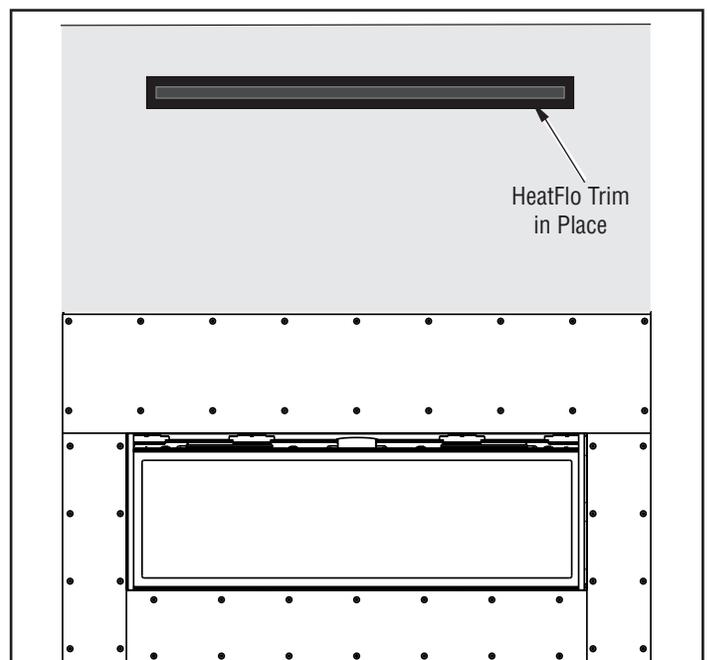

Figure 13 - HeatFlo Trim Installed (Flush Wall Shown)
10. Attach the trim to the register using the screws on both sides after finishing details (**Figure 10, this page and Figure 13, page 7**). **NOTE:** The trim has 1" adjustment to allow for different thickness of building material like marble, tile, etc.
NOTE: The HeatFlo Register Trim ships from the factory painted black and it may be painted another color to match the wall color; using high temperature paint rated for minimum 250°F continuous rating (**Figure 13**). Do not finish over any of the opening in the trim outlet.